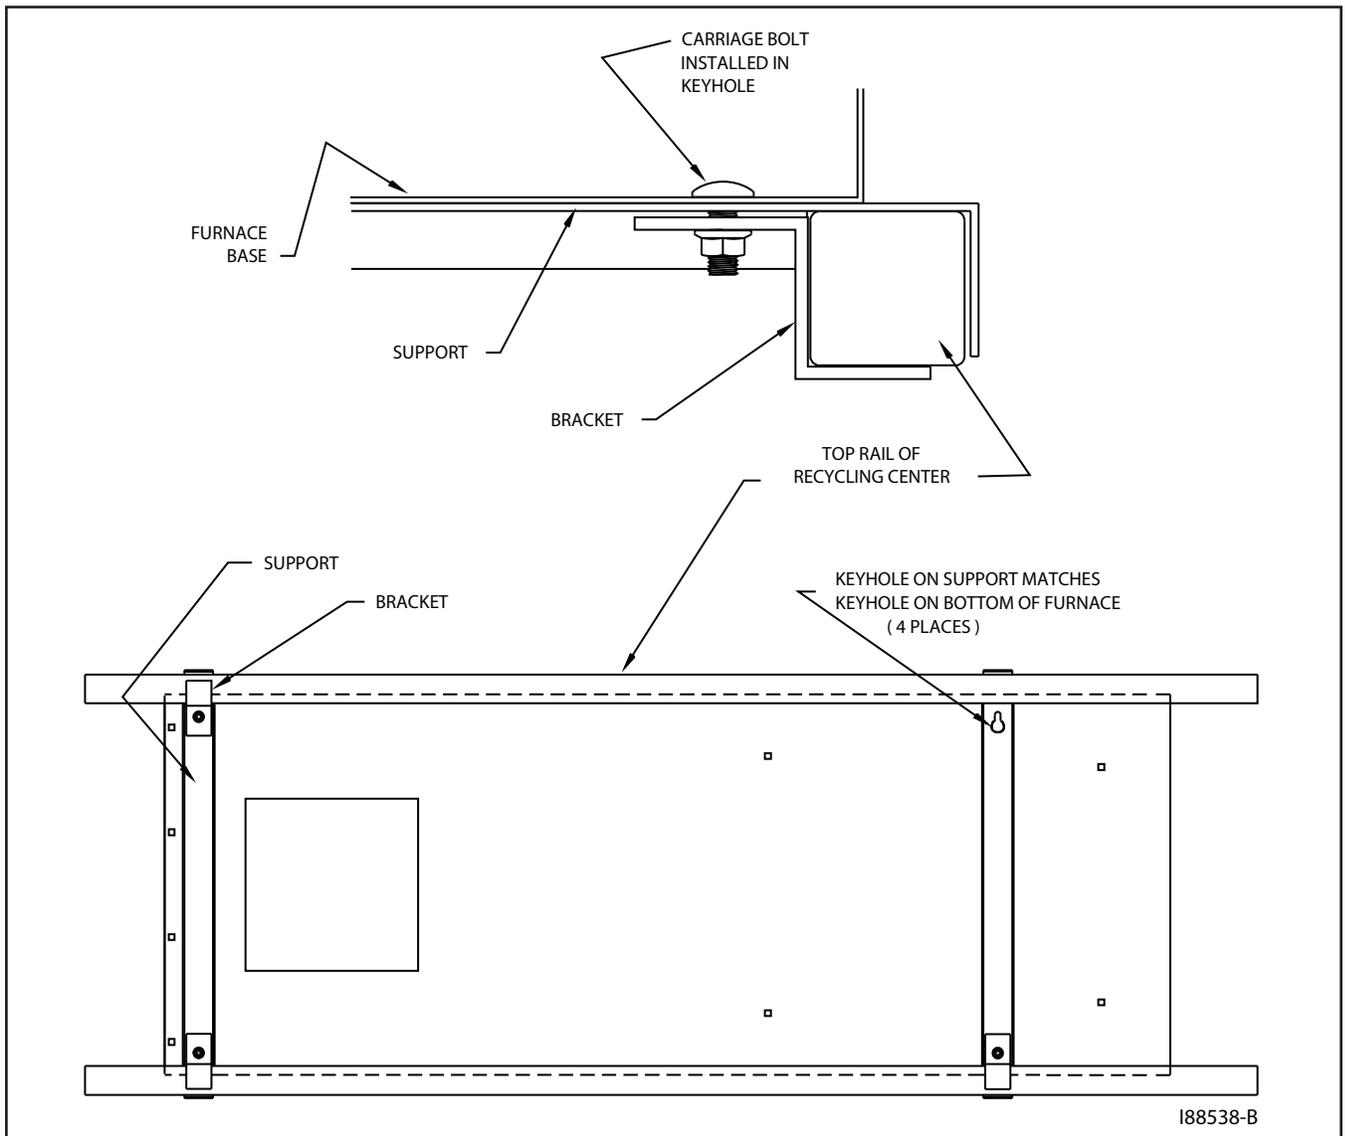

Figure 3G - Securing the CB-140 / CB-1750 / CB-2500 / CB-3250 Furnace w/ Supports
5. **For Recycling Centers with the CB-140 / CB-1750 / CB-2500 / CB-3250 Furnaces:** Install the two additional support brackets across the top rails of the recycling center. Refer to Figure 3G as needed.
1. Refer to Figure 3G. Ensure that the four keyholes on the bottom of the furnace line up with the four keyholes in the support brackets.
As shown in Figure 3G, install the smaller locking brackets and nuts onto the carriage bolts. DO NOT tighten. Ensure that the brackets are positioned so that they wrap around the bottom of the support rail.